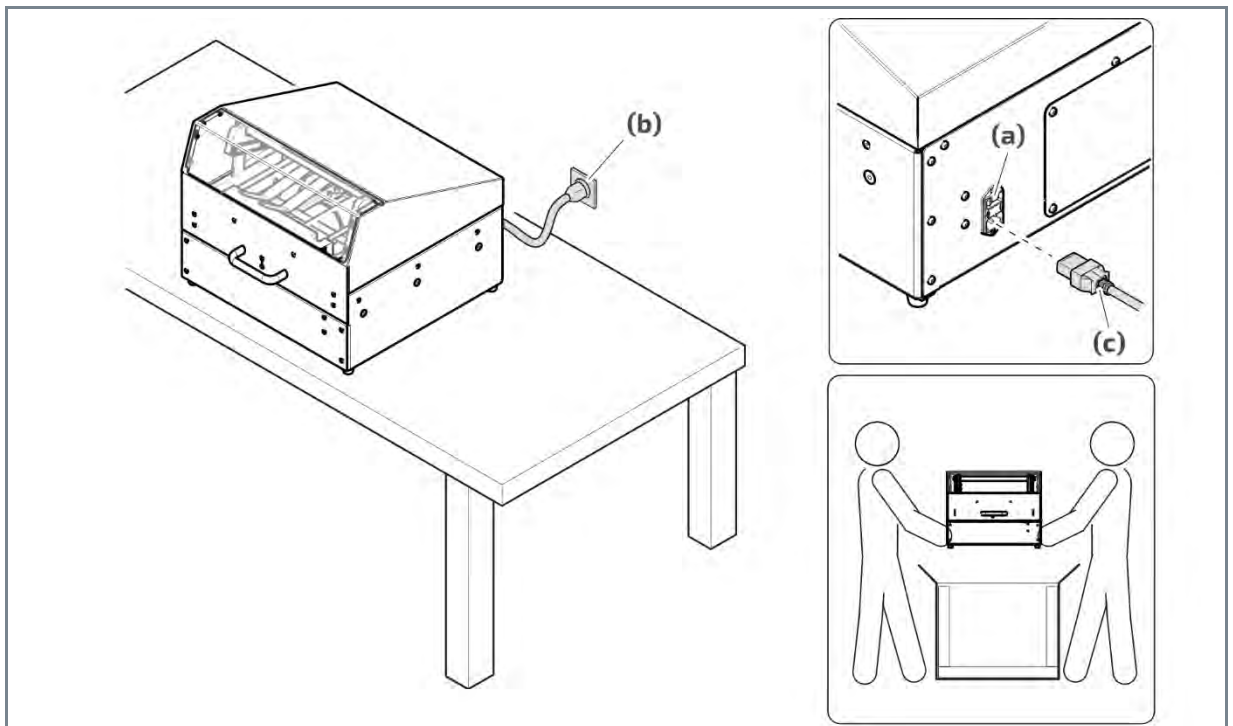

Fig. 12 Decommissioning the packaging machine
1. Switch the main switch **Fig. 12 (a)** of the packaging machine to "0".
2. Unplug the power cable **Fig. 12 (b)** and **(c)**.